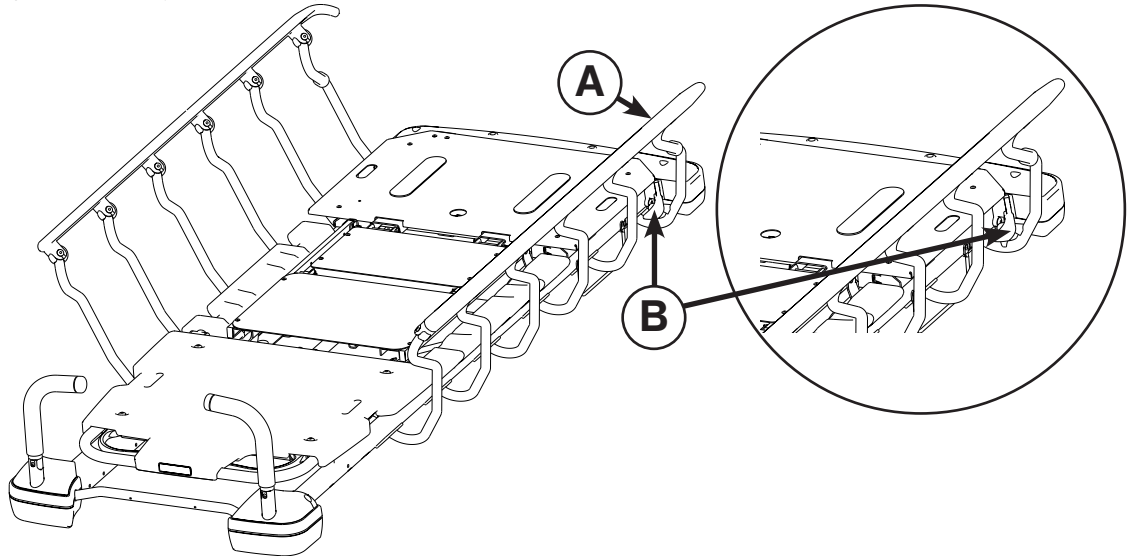

Figure 18: Siderails
To raise the siderails, pull up on the siderail (A) and raise it to the full up position until the latch (B) engages as shown in Figure 18.
To lower the siderails, pull up on the latch (B) and guide the siderail to the full down position as shown in Figure 18. The latches (B) are colored yellow for easy identification.